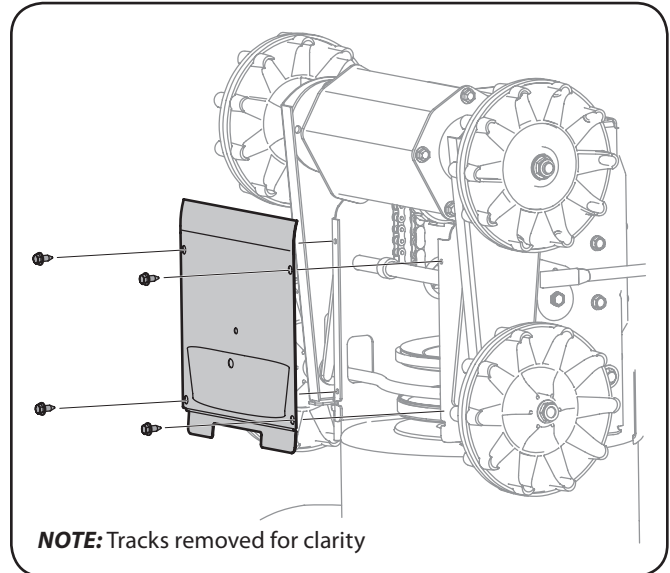

Figure 7-2
4. Remove the frame cover from the underside of the snow thrower by removing the self-tapping screws which secure it. See Figure 7-2.
4. Remove the frame cover from the underside of the snow thrower by removing self-tapping screws which secure it. Refer to Figure 7-2.